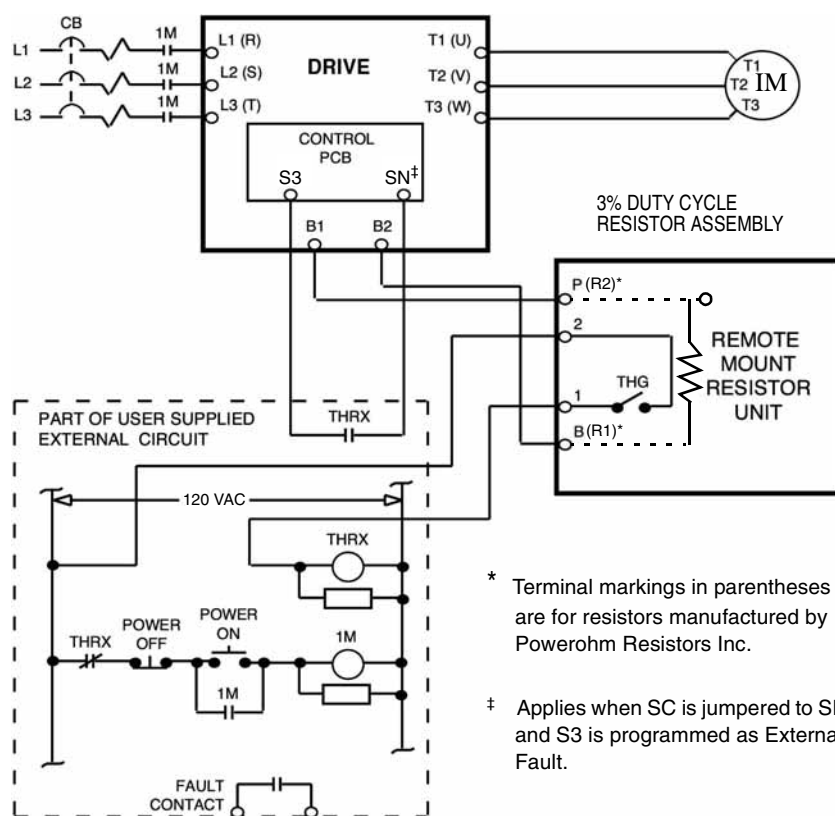

Fig 2.6 Wiring Remote Mount Resistor Unit (for F7U20P4 thru F7U2018 and F7U40P4 thru F7U4018)
2. Remove the Remote Mount Resistor Unit cover to access its terminal block. Connect the Remote Mount Resistor Unit to the Drive and to external control circuitry according to Fig 2.6 below.